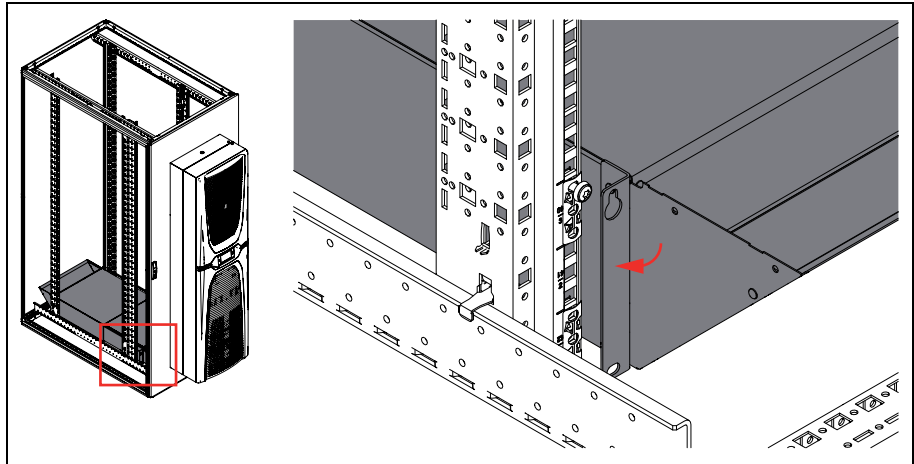

Fig. 11: Fold over the rear tabs
- Then fold the tabs over by hand at right angles (fig. 11).